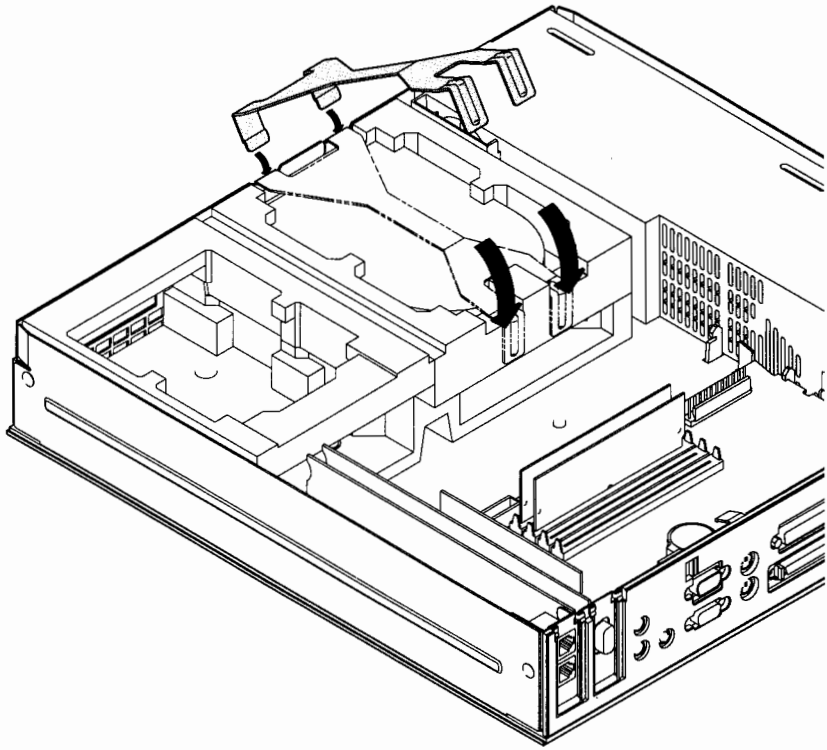

Figure B-15. Installing the Disk Retaining Bracket
- 11.** Install the disk retaining bracket by fitting the tabs into the slots on front of the system unit, then rotating it downward, as shown in Figure B-15.